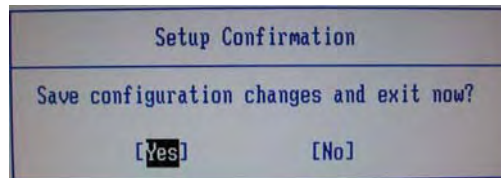

Figure 1-12. BIOS Save Setup
10. Press **F10** to save and exit the BIOS. The "Setup Confirmation" popup window is displayed with the wording "Save configuration changes and exit now?". The **[Yes]** option should be highlighted (Figure 1-12).